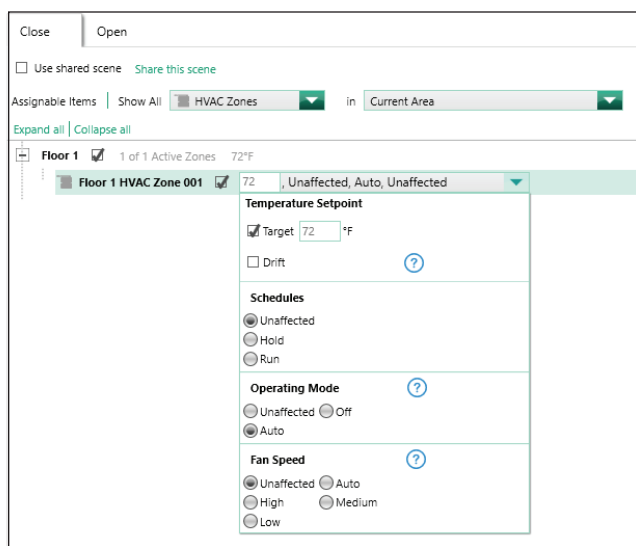

Figure 2
- In the Close tab, select the desired settings to apply when the door/window is Closed as shown in Figure 2. For the purpose of this app note, it is desired to leave the thermostat in Auto mode of operation when the door is closed.